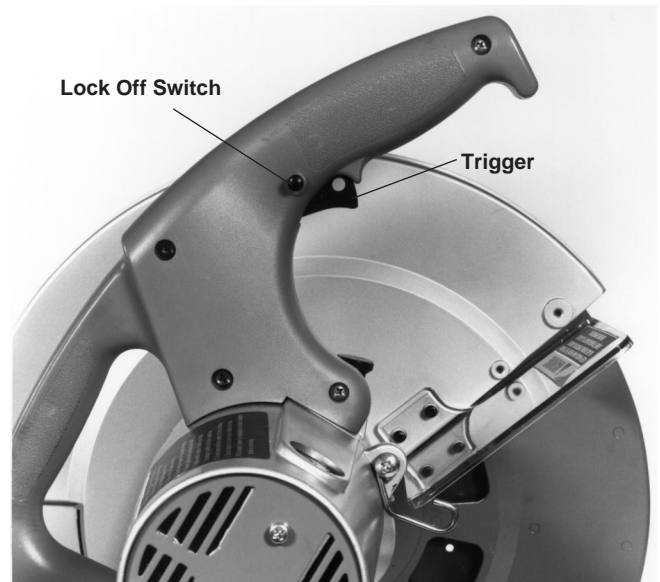

Figure 7
Step 2: To start the tool, firmly grasp the handle, then depress **LOCK-OFF** switch button (**SAFETY PUSH POLE**). Keeping the safety push pole depressed, pull the trigger switch. Be sure to allow the motor to reach maximum speed prior to cutting. (Figure 7)